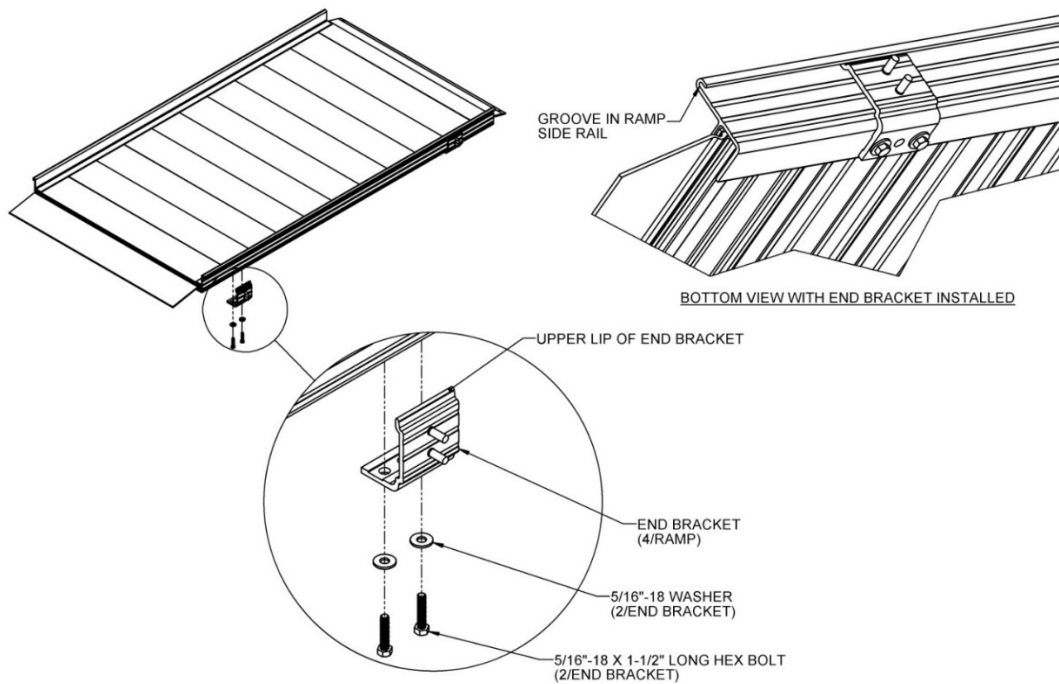

FIG 2
3.2. Locate the two ramp handrail end bracket pairs and install one end bracket at each outside corner of the ramp using two hex bolts and washers into the two threaded inserts at the end of the ramp. As shown in FIG 2, the upper lip of the end bracket should extend into the groove under the ramp side rail.